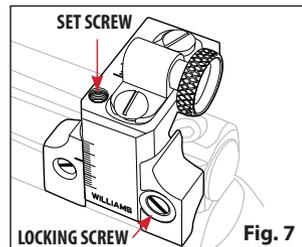

Fig. 7
- To adjust elevation you must first loosen the elevation locking screw, located on the side of your sight, towards the rear. The locking screw is identified by a silver ring surrounding the screw (Fig. 7)
- Once loosened, make micro-adjustments to your elevation by raising or lowering the small set screw located on the top of the sight (Fig. 7)